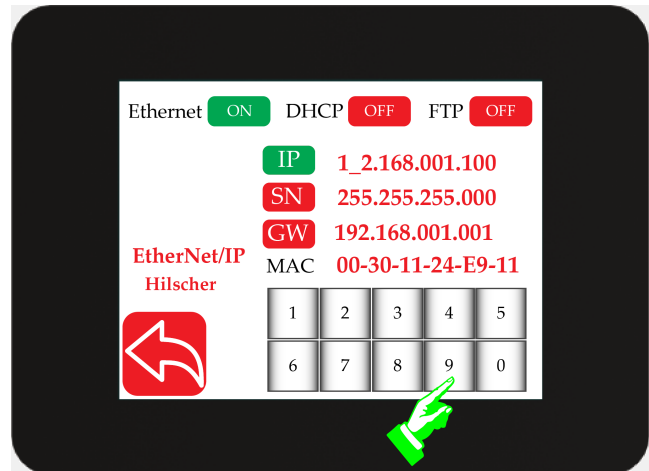

Figure 5.97: IP address value changed by using the numerical keypad
2. Using the keypad, the user can input one digit at a time to complete each 8-bit octet value, as illustrated in Figure 5.97. It is essential to use three digits for each octet by adding one or two zeros before the values.